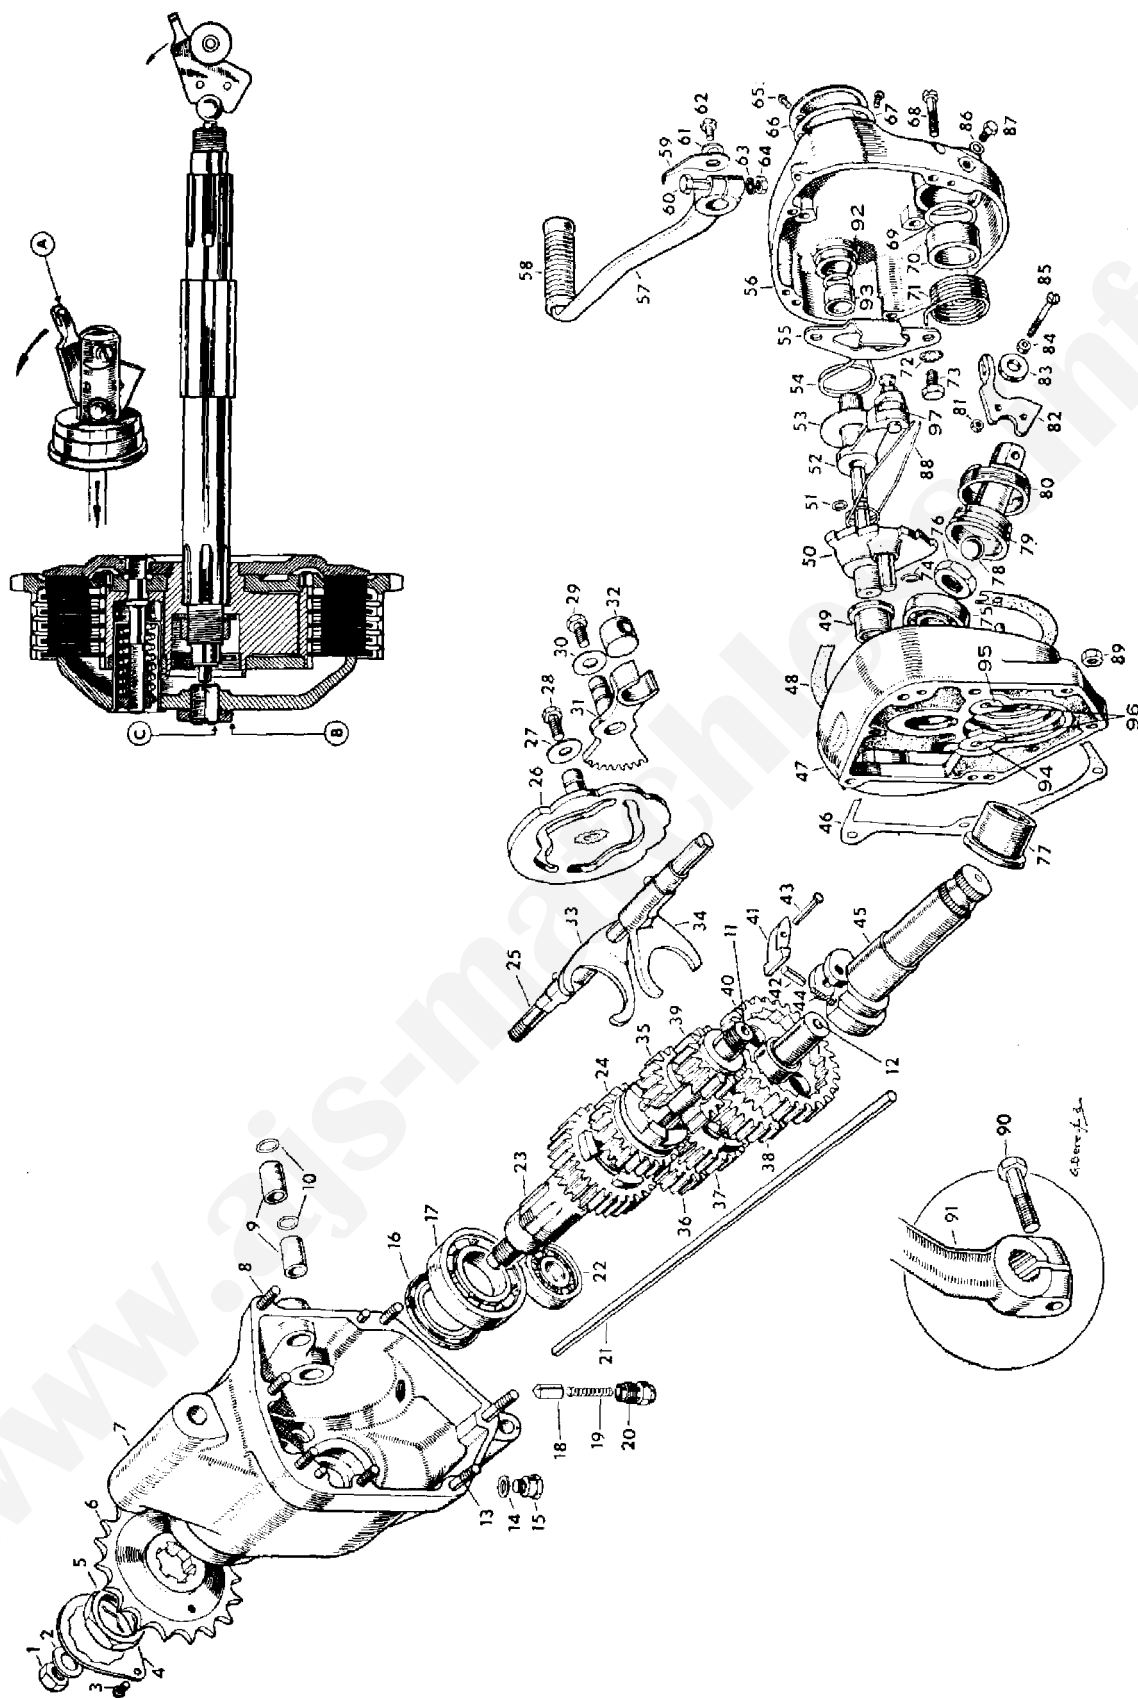

FIG. 41
**Dismantling the gear box.** (Figures in parenthesis apply to Fig. 41.) If the gear box is to be completely dismantled, first remove the clutch as detailed for 'removing engine from frame', including the rear portion of the front chain case. Have available a new set of gaskets.
**Removing the outer cover (56).** Remove drain plug (15), catch oil as it drains.
**Clutch slip.** The clutch operating mechanism is shown in Fig. 41. To enable the clutch to function satisfactorily it is essential to have clearance between the clutch push rod and the thrust stud (C). The fact that there is play, or lost motion, at the handlebar lever end does not guarantee there is clearance between the push rod and thrust stud.